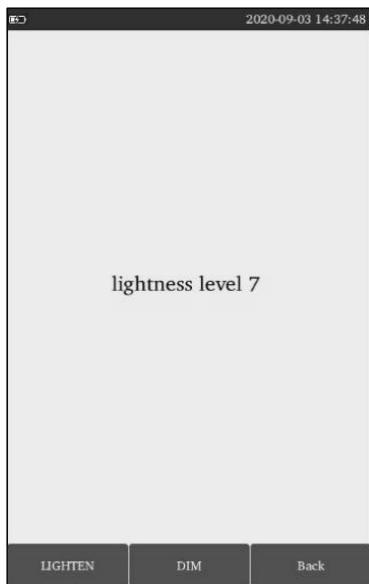

Fig 15
5) Tap "**Backlight**" to adjust the brightness of the display. Tap "**LIGHTEN**" or "**DIM**" to adjust the screen brightness. (Ref Fig 15)